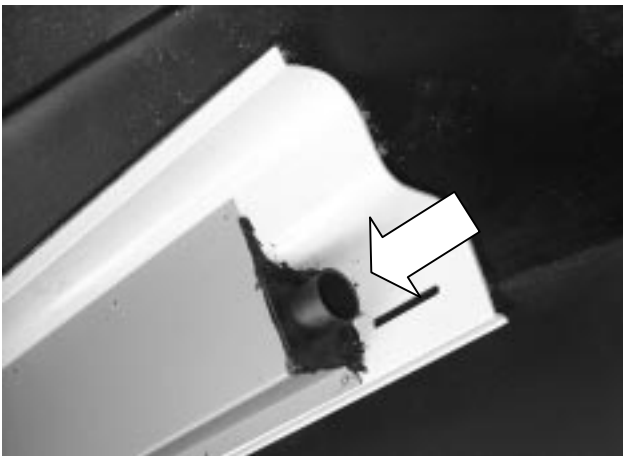

Figure 23: Air outlet molding with built-in diffuser. Note T-transition.
- 1) Attach the flex tubing coming from the parcel rack to the T- transition duct of the diffuser (see Figure 23). Secure with a hose clamp.